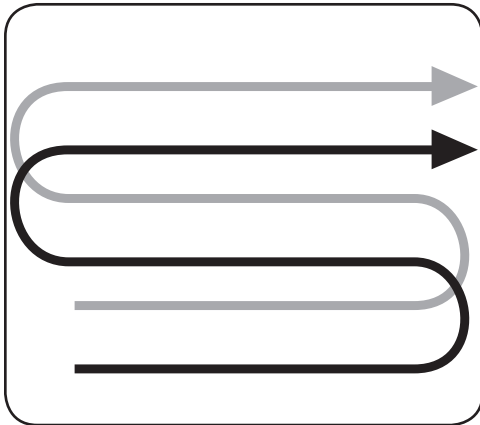

Figure 4-12
- When preparing a seedbed, go over the same path twice in the first row, then overlap one-half the tiller width on the rest of the passes. See Figure 4-12.